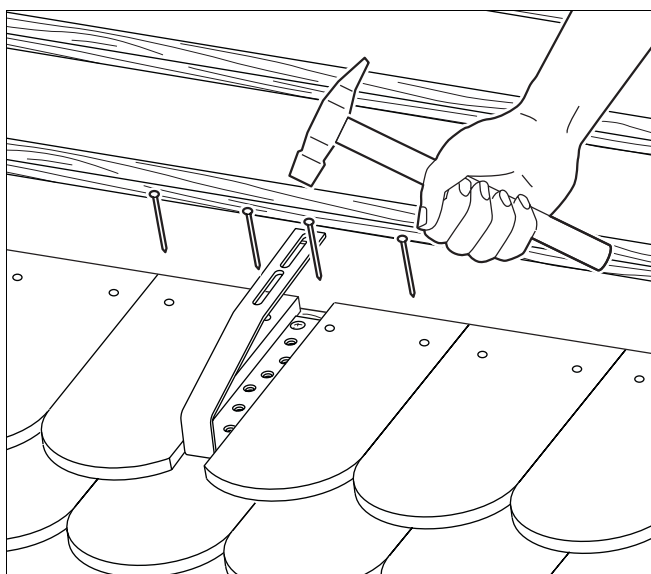

Fig. 26 Fastening crown tiles
- Attach the crown tile to the roof batten (Fig. 26).